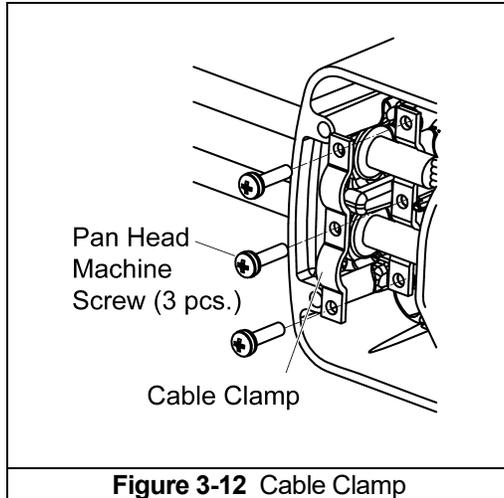

Figure 3-12 Cable Clamp
- Remove the controller cover and the 3 machine screws that hold the Cable Clamp (see **Figure 3-12**).